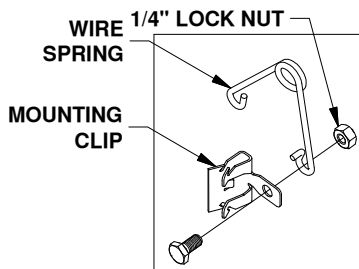
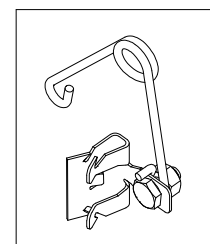

FIGURE B1: Leveling kit parts.
FIGURE B2: Assembled leveling kit.
1. Locate the 1/4" cap screw and nut, along with the wire tension spring and mounting clip. Pass the 1/4" cap screw through the mounting clip and the wire spring as shown in figure B1. Thread the 1/4" lock nut onto the 1/4" cap screw. Tighten the lock nut just enough that the spring will stay in place but will still be able to rotate around the bolt if needed, see figure B2.